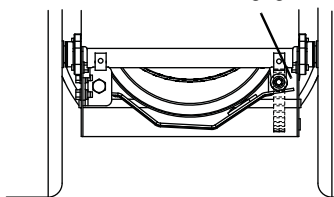

Figure 31
2. With the attachment clutch lever engaged, check the clearance between the frame and plastic roller on the lower end of the attachment idler arm (Figure 31).